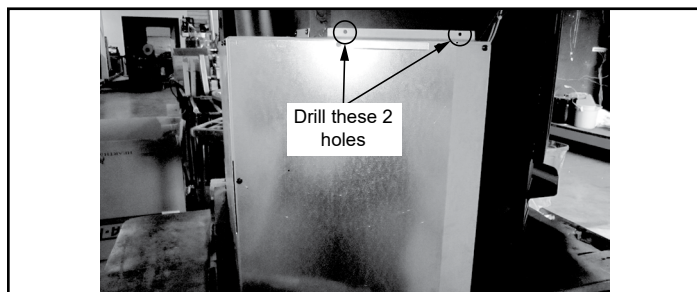

Figure 23.1
- Using the electric drill with #26 drill bit; drill 2 holes into the left side of the hopper. Add two screws to secure shroud assembly to the appliance (**Figure 23.1**).